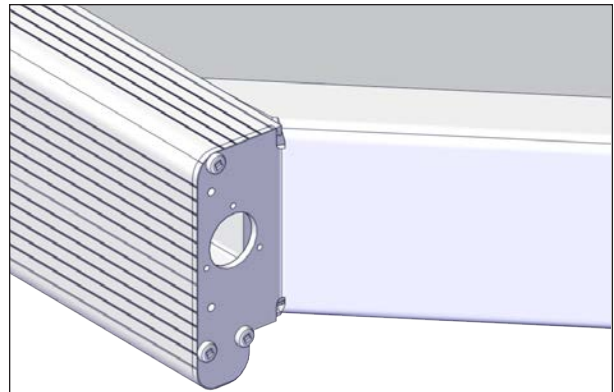

FIGURE 68: PUSH ROPE INSIDE THE C-CHANNEL
2. Push the wire in the C-channel and repeat this step on the 3 other cover corners, see Figure 68.